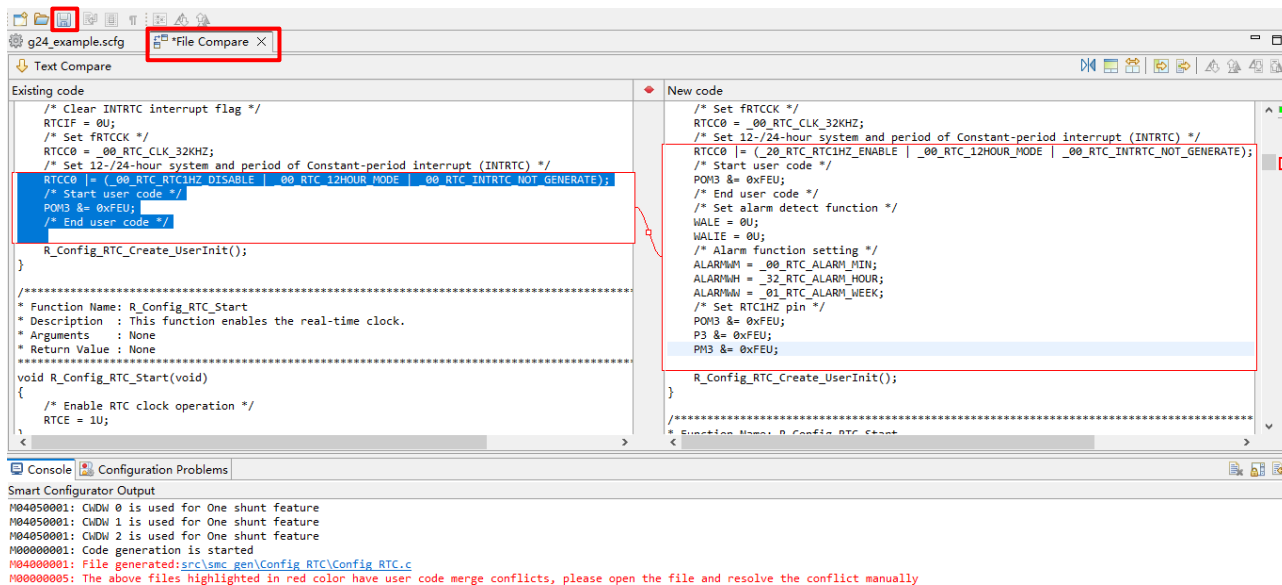

Figure 10-6 Code after Deleting and Saving
(4) Save the modified code (Figure 10-6 Code after Deleting and Saving).